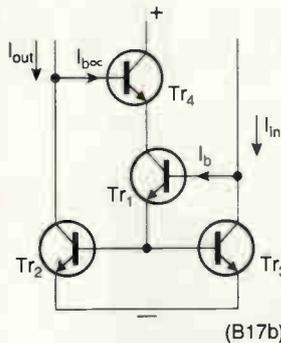
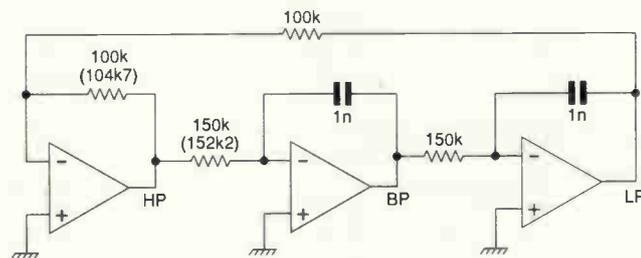

Fig. 2. Further base current added to output restores accuracy while retaining improved bandwidth.
Fig. 1. Simple low distortion sinewave oscillator
To regain accuracy, the circuit of Fig. 2
As an exercise in making a silk purse out of a sow's ear, that standard low-cost standby of FET input op-amps, the TL084 was selected. I started with the circuit of Fig. 1, which, apart from the frequency, is the same basic circuit as in reference 5. This circuit produces an output at approximately 1kHz, the peak to peak amplitude just reaching to the supply rails.
Output spectrum is shown in the upper trace of Fig. 2. This shows the measured at the output of the second integrator, deliberately plotted with rather a wide IF bandwidth. The
Fig. 2. Upper trace, output of the circuit of Fig. 1. Span 0-5kHz, 100Hz resolution (IF) bandwidth, video (post detection) filter off. Lower trace, as above, but with component values in brackets, resolution bandwidth 30Hz.
The spectrum was now as shown in Fig. 2, lower trace. For clarity, this has been recorded at a narrower IF bandwidth, and the slight increase in frequency is clearly visible, more so at the higher harmonics.
Following careful setting up, the output spectrum was as shown in Fig. 4. The third harmonic at the low-pass output is at -69dB, about as low as the diode-free circuit of Fig. 1. It is also lower – without the benefit of outphasing – than achieved by the circuit of reference 4 with diodes.